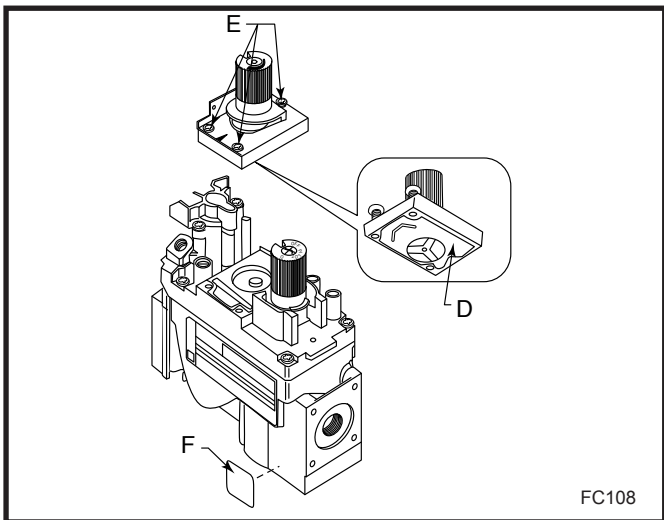

Fig. 52 Replace regulator.
2. Insure the rubber gasket (D) is properly positioned and install the new HI/LO pressure regulator assembly to the valve using the new screws (E) supplied with the kit. Tighten the screws securely. (Ref. torque = 25 in/lb) (Fig. 52)
3. Install the enclosed conversion label (F) to the valve body where it can easily be seen. (Fig. 52)